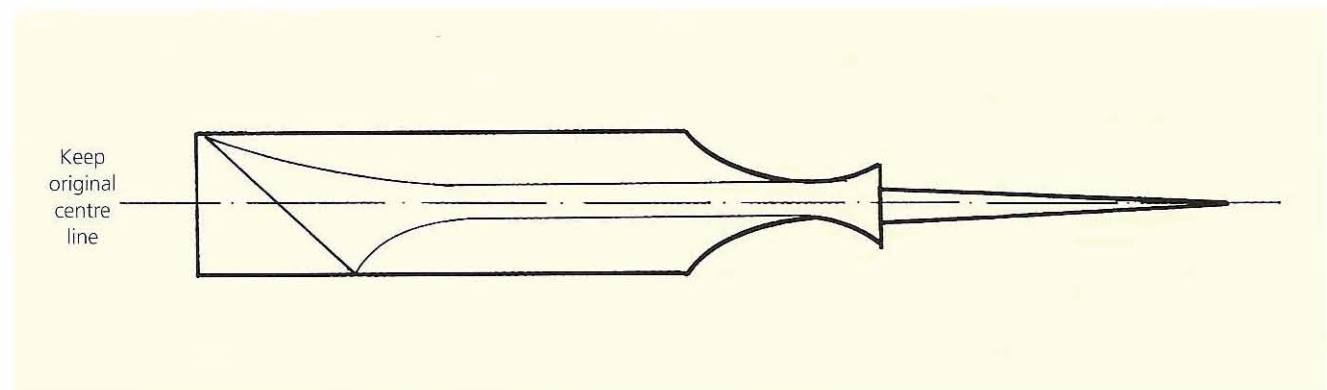

Fig 3.32 An alternative method: once annealed, surplus metal can be ground away quickly, and it does not matter if the metal becomes blued
- A simpler way is to take an oversize fishtail or other chisel, anneal it and grind away the surplus metal (Fig 3.32). As when sharpening a normal skew chisel (see Volume 1, pages 193–4), set the skew angle first – try about 30° to begin with – then the bevels. Sharpen as normal and retain the corners.